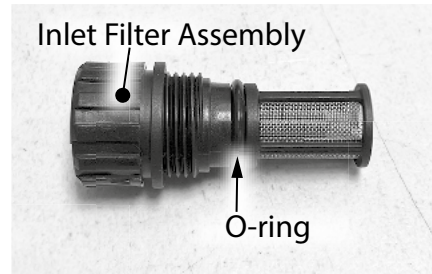

Figure 1 - O-ring location
- 7** Locate the new inlet filter and O-ring provided in the kit. Install the O-ring to the inlet filter. See Figure 1.